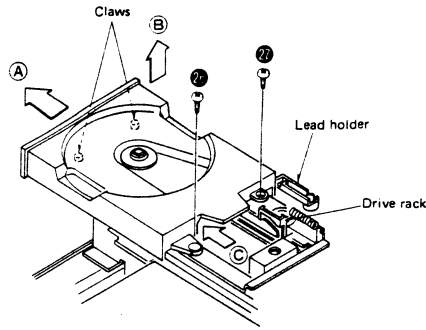

Fig. 9
3. Remove the disc holder setscrews [Fig. 9 ; 20, 21].
5. Push the disc holder in the direction of arrow (A) and release the 2 claws from the bottom, then remove the disc holder by lifting it in the direction of arrow (B).
*Fit the disc holder with the drive rack pressed in the direction of arrow (C).